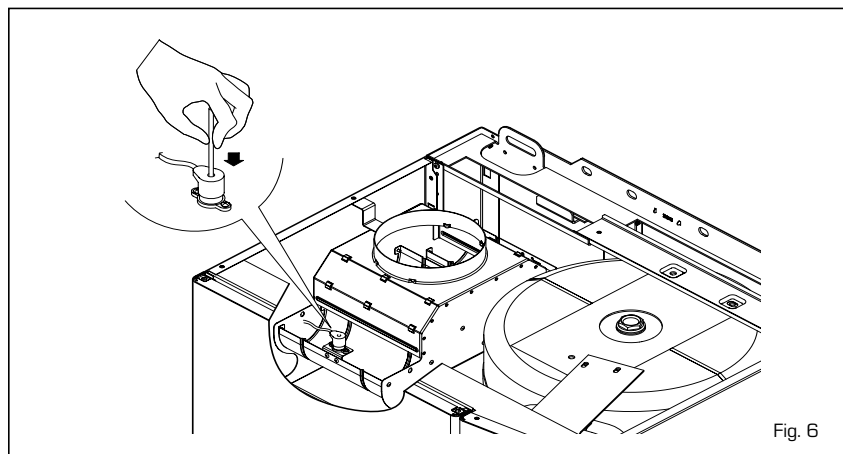

Fig. 6
- **Smoke safety device vers. "25/60"** (fig. 6)